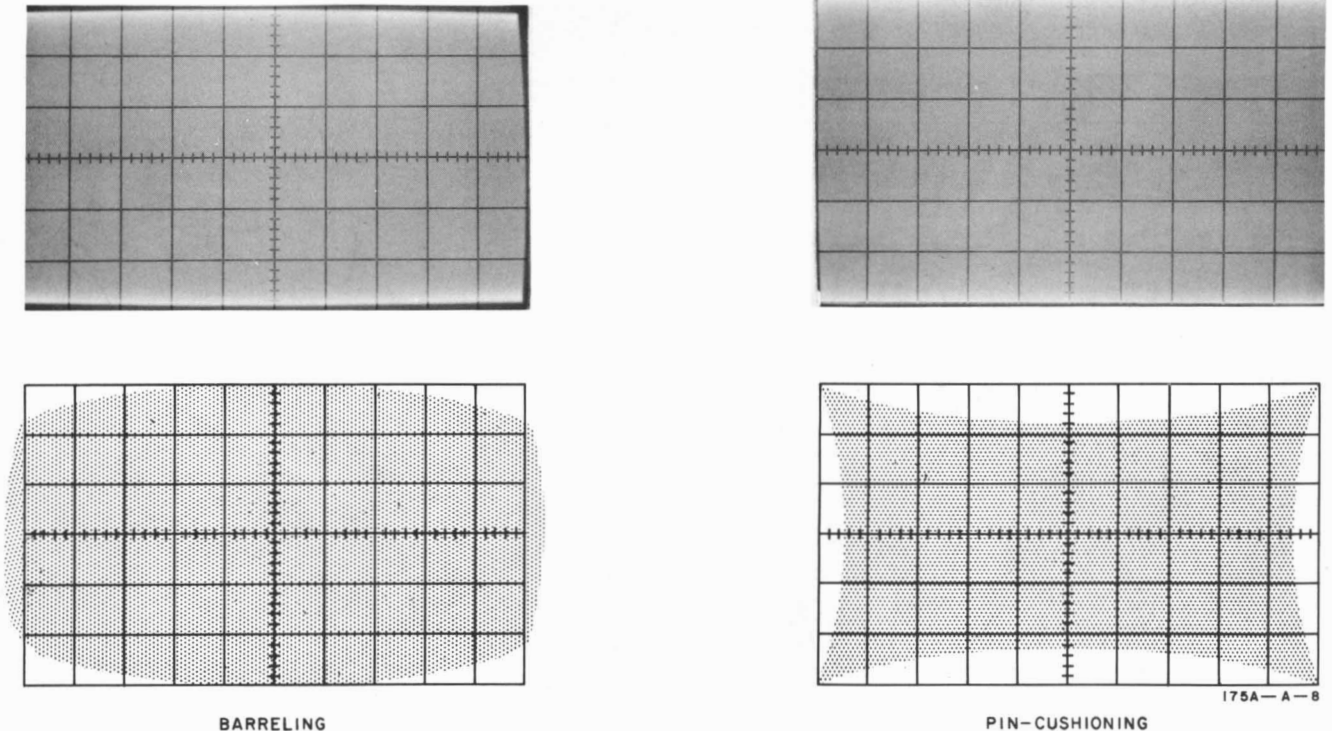

Figure 5-4. Pattern Adjustment
e. Adjust Pattern Adj R345 for minimum barreling or pin-cushioning around top, bottom, and left sides of display (see figure 5-4).